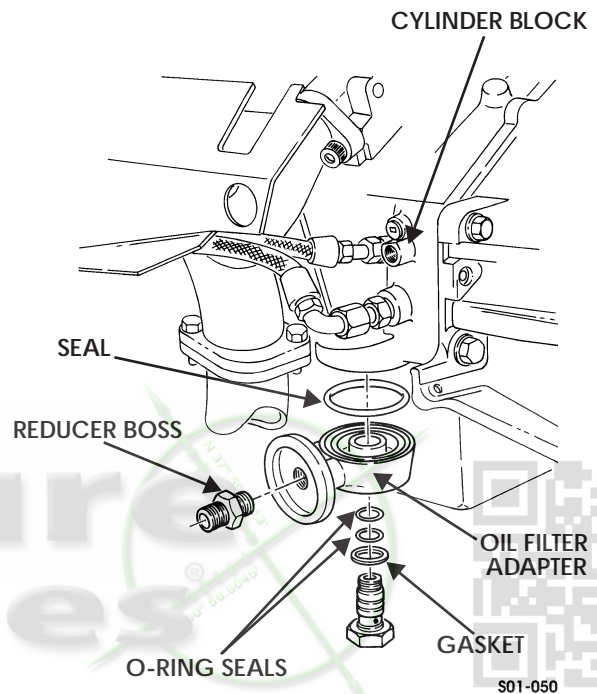

Figure 1-38: Engine Oil Filler Adapter
2. Remove adapter bolt, gasket, and two O-ring seals securing oil filter adapter to cylinder block. Discard gasket and O-ring seals (Figure 1-38).
Inspect reducer boss for damaged threads or cracks (Figure 1-38).
1. Install reducer boss into oil filter adapter. Tighten boss to 25 lb-ft (34 N•m) (Figure 1-38).